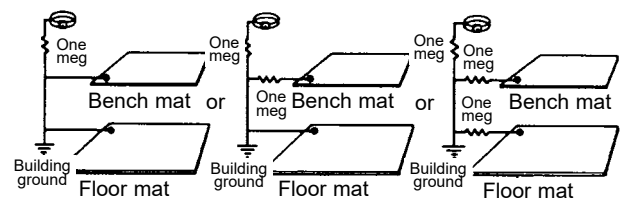

Figure 15. Proper wiring diagrams for conductive and dissipative ESD workstations
8. Your completed installation of a Desco Europe ESD workstation should comply with one of the electrical diagrams illustrated in Figure 15.